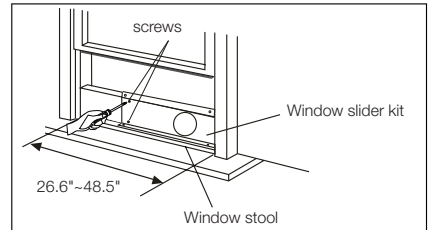
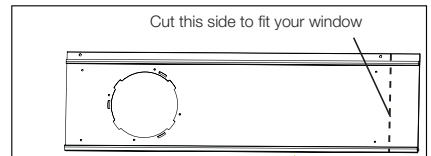
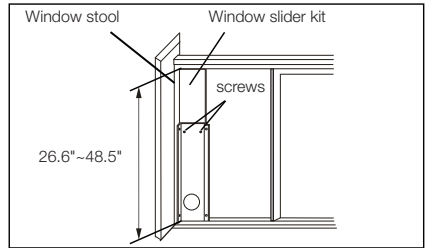

Fig. 13
Fig. 14
Fig. 19
2. Open the window sash and place the window slider kit on the window stool (Fig. 13). Attach the window slider kit to the window stool. Adjust the length of the window slider kit according to the width of window. Screw down the two screws on the window slider kit. See Fig.13. Cut the adjustable window slider kit if the width of window is less than 26.6 inches (Fig. 14).
- Open the window sash and place the window slider kit on the window stool. See Fig.19. Attach the window slider kit to the window stool. Adjust the length of the window slider kit according to the height of window. Screw down the two screws on the window slider kit. See Fig.19. Cut the adjustable window slider kit if the height of window is less than 26.6 inches (Fig. 14).